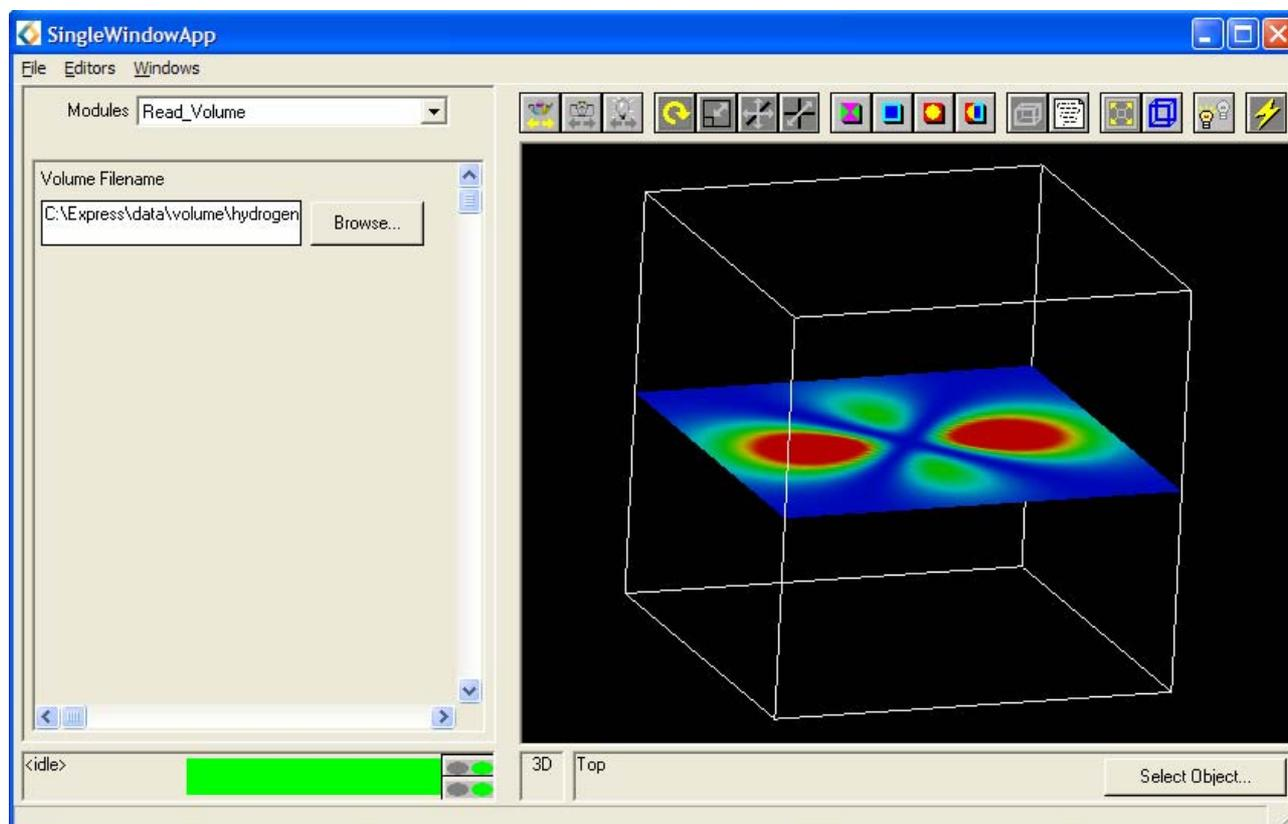

Figure 2.15: Transformed Image in the Data Viewer Pad
- Manipulate the object until the scene appears similar to the one shown in Figure 2.15.